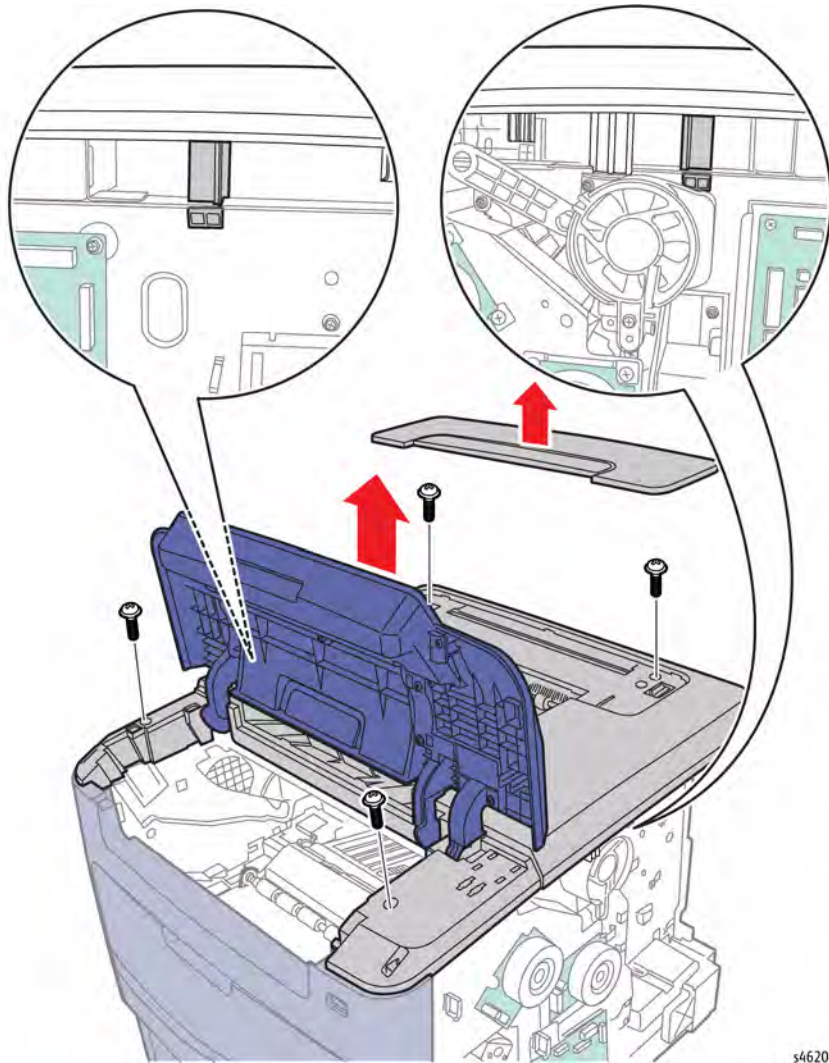

Figure 2 Remove the Top Cover
8. Release 2 hooks that secure the cover to the chassis, Figure 2.